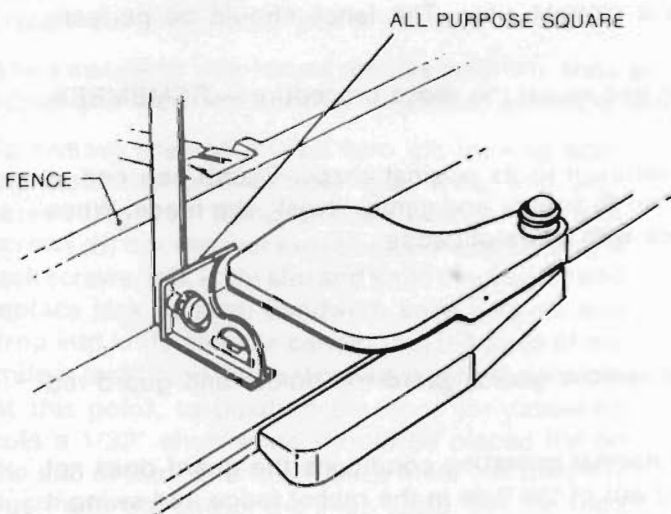
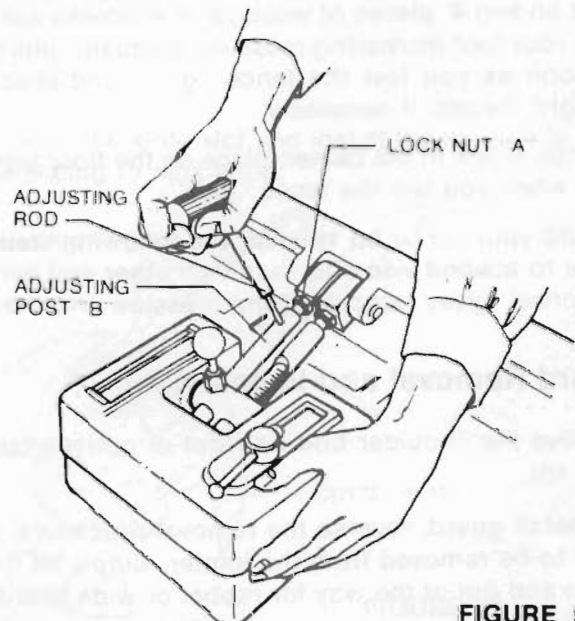

FIGURE 4
FIGURE 5
Before operating jointer it is imperative that fence be aligned perpendicular (90°) to the outfeed table. After outfeed table height has been adjusted to the apex of the cutter blade rotation (See "LEVELING TABLES") use a machinist's all purpose square to get proper alignment (Fig. 4). Placing square on outfeed table near cutterhead, loosen lock nut (A) (Fig. 5) and insert a small rod in adjusting post (B). Turn post clockwise to move top of fence to the right and counterclockwise to move fence to the left. When fence is square with outfeed table reset lock nut (A).